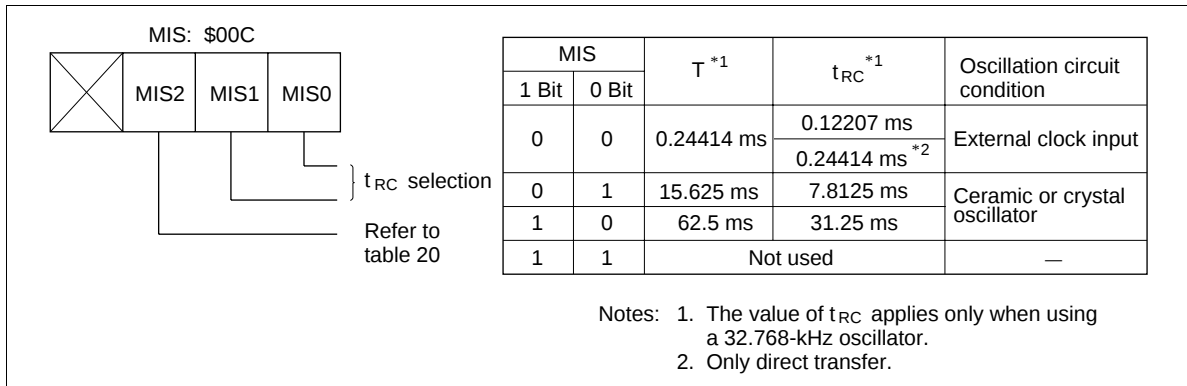

Figure 13 Miscellaneous Register
Interrupt Frame: In watch and subactive modes, ϕ_{CLK} is supplied for timer A and the $\overline{INT}_0$ circuit. Prescaler W and timer A operate as time bases to generate interrupt frame timing. Three interrupt frame cycles (T) can be selected by the settings of the miscellaneous register, as shown in figure 13.